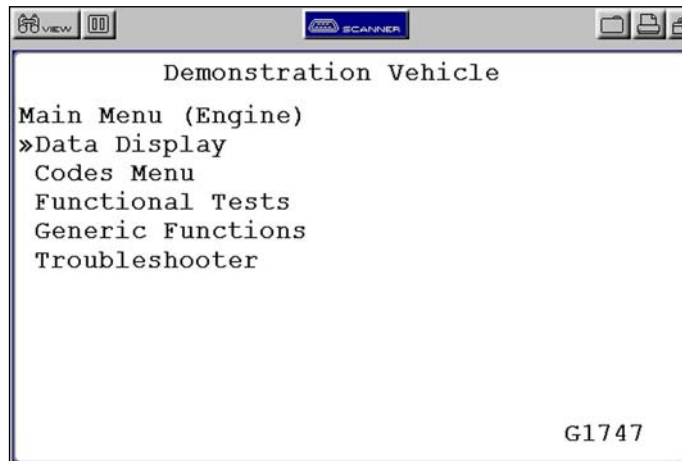

Figure 5-13 Sample system main menu
- Press **N/X** until you reach the main menu (Figure 5-13).